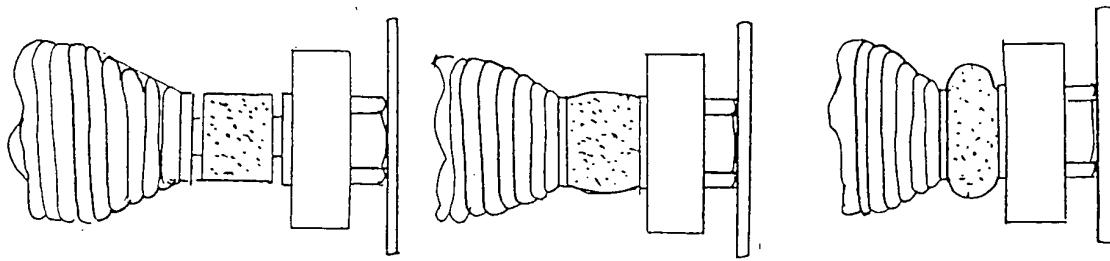

Fig. 9
5. The shock absorber at the rear of the Main Spring, between the coil section of the Main Spring and the red casting, should be factory set for the correct adjustment. If further adjustment in the field is necessary, tighten or loosen the rear Black Turnwheel "C" and the front Locknut "B", at the rear of the spring, to increase or decrease the shock absorber compression. (See Fig. 8). The Black Turnwheel and rear Locknut will have to be loosened before they will turn on the threaded bolt. Hold the front locknut with a wrench then unscrew the rear Black Turnwheel in a counter clockwise direction to free it. Tighten or loosen the front locknut to ensure the correct pressure is on the shock absorber. (See Fig. 9). (See "Author's Helpful Hint" below.) When you have set the correct pressure on the shock absorber, retighten the rear Black Turnwheel against the front Locknut by holding the front Locknut with a wrench and turning the rear Black Turnwheel clockwise, until it is tight against the front Locknut.